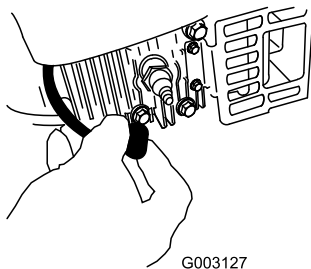

Figure 32
- Disconnect the spark plug wire from the spark plug (Figure 32) before performing any maintenance procedure.